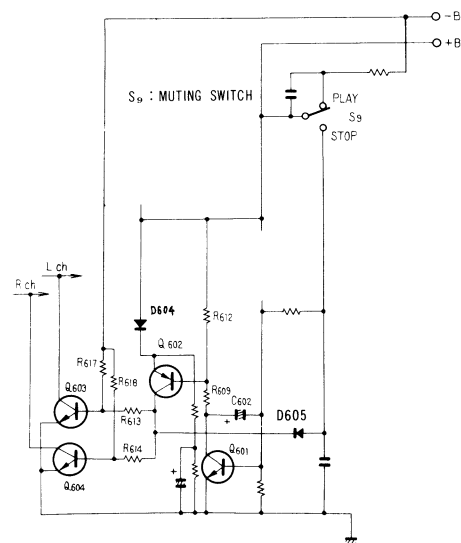

Fig. 10 Muting circuit (When PLAY button is operated)
PLAY button is Operated (Fig. 10)
• When PLAY button is Operated (Fig. 10)